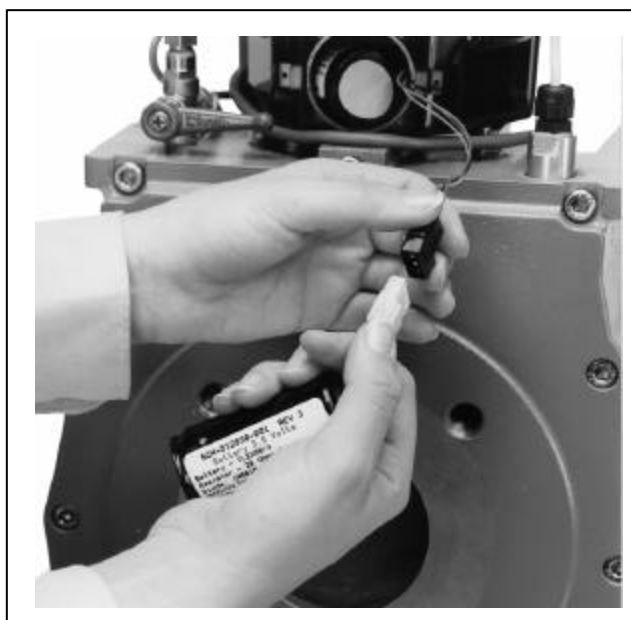

Figure 7.2 Connecting Batteries
- Disconnect the first battery and attach a fresh battery making sure the connectors snap securely in place (**Figure 7.2**). Repeat with the second battery.